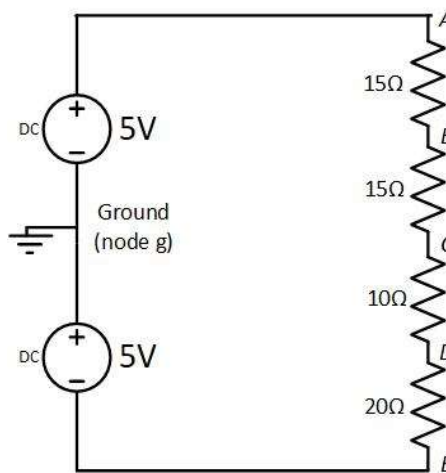

Figure 5: Circuit with bipolar supply
- a. Close CWK1c.plecs and open CWK1d.plecs. The circuit here has two supplies connected in series so that one half of the circuit has a negative voltage with respect to ground as shown in Figure 5.
(Q11) Calculate the theoretical values for the voltages V_{AB} , V_{BC} , V_{CD} and V_{DE} where A, B, C, D and E relate to the node labelling in Figure 5. Show your working. Use these values to calculate V_{EC} noting that by convention, the first named node is considered to be the positive node.